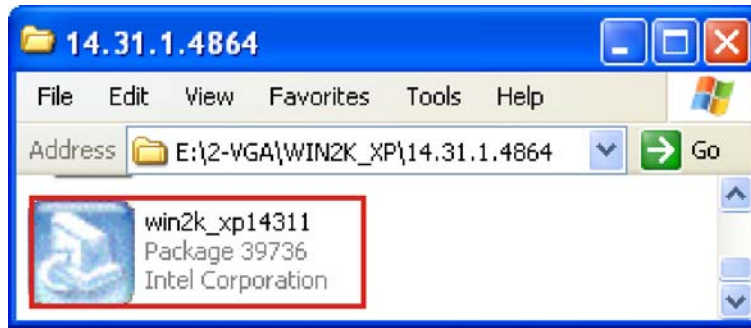

Figure 6-8: Graphics Driver File
Step 2: Browse to the graphics driver folder ("**E:\2-VGA\WIN2K_XP\14.31.1.4864**") for Windows XP (**Figure 6-8**).